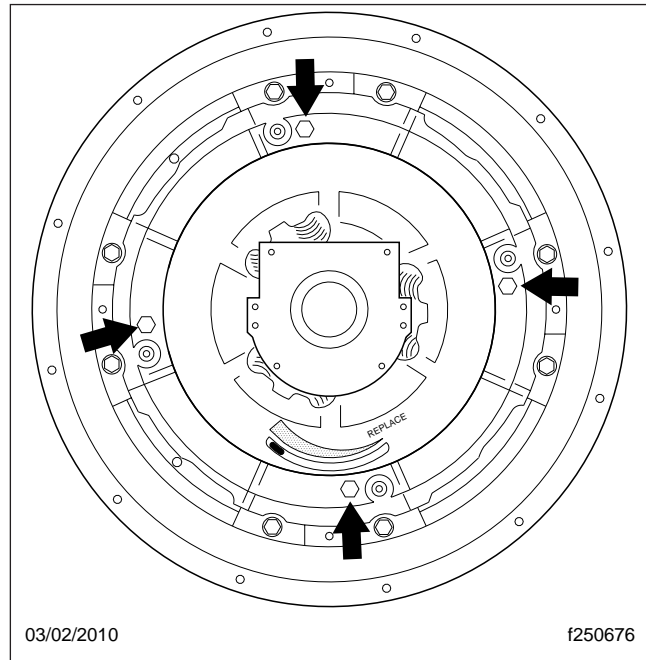

Fig. 4, Installed Shipping Bolts
by the numbers forged on the head of the bolt. See Fig. 4. Hexnut (and locknut) classes can be identified by the marks or numbers on various surfaces of the
These bolts will cage the pressure plate, preventing the four plate spacers from moving out of position when the clutch is removed from the fly-wheel. See **Fig. 4**.
- 11.3 Observe the test gauge for 30 seconds. Refer to Fig. 4 for the maximum allowable
- 12.3 Observe the test gauge for 30 seconds. Refer to Fig. 4 for the maximum allowable